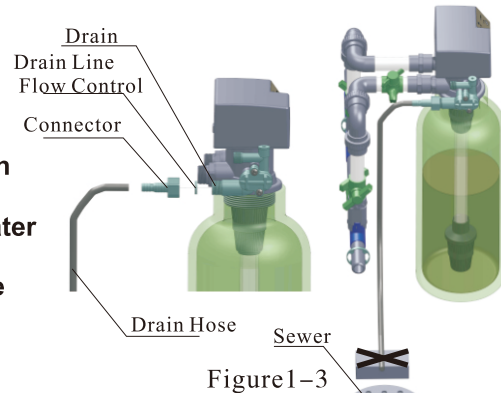

Figure1-3
③ Install drain pipeline
a. As Figure1-3 shows: slide the drain hose connector into drain connector.
d. Locate the drain hose as Figure 1-3.
●Be sure not to connect drain with sewer, and leave a certain space between them to prevent wastewater absorbed to the water treatment equipment, such as showed in the Figure1-3.